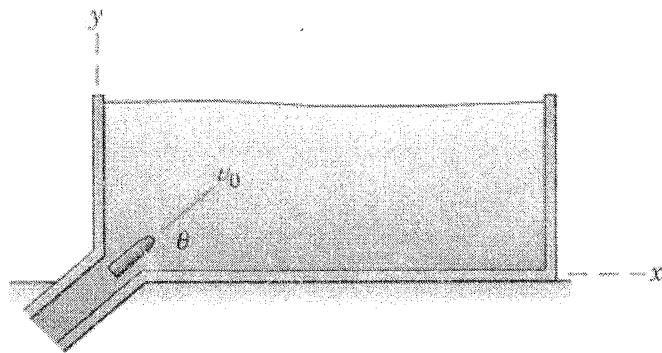

Figure Q4(b)
- b. A projectile is ejected into an experimental fluid at time $t=0$. The initial speed is v_0 and the angle to the horizontal is θ as shown in the figure Q4 (b). The drag on the projectile results in an acceleration term $a_D = -k.v$, Where k is a constant and the v is the velocity of the projectile. Determine the **x** and **y** components of both the **velocity** and **acceleration** as functions of time. Include the effects of gravitational acceleration.